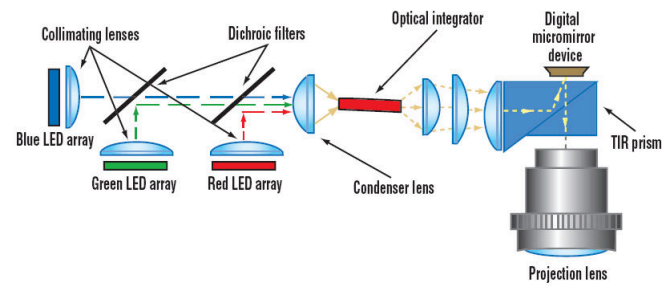

Figure 5. Simplified optical module diagram.
- **DLP Optical Module:** The DLP DMD, along with its associated illumination sources, optical elements, and necessary mechanical components are combined into a compact and rugged assembly known as an optical module or light engine (see **Figure 5**).